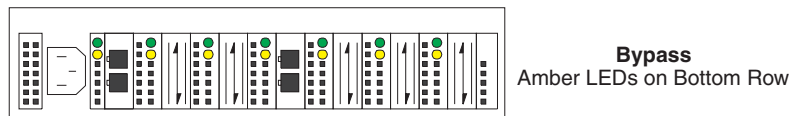

Figure 7. Type 3523 fibre channel hub port bypass LEDs
4. Check the Port Bypass (amber) LEDs. See Figure 7.